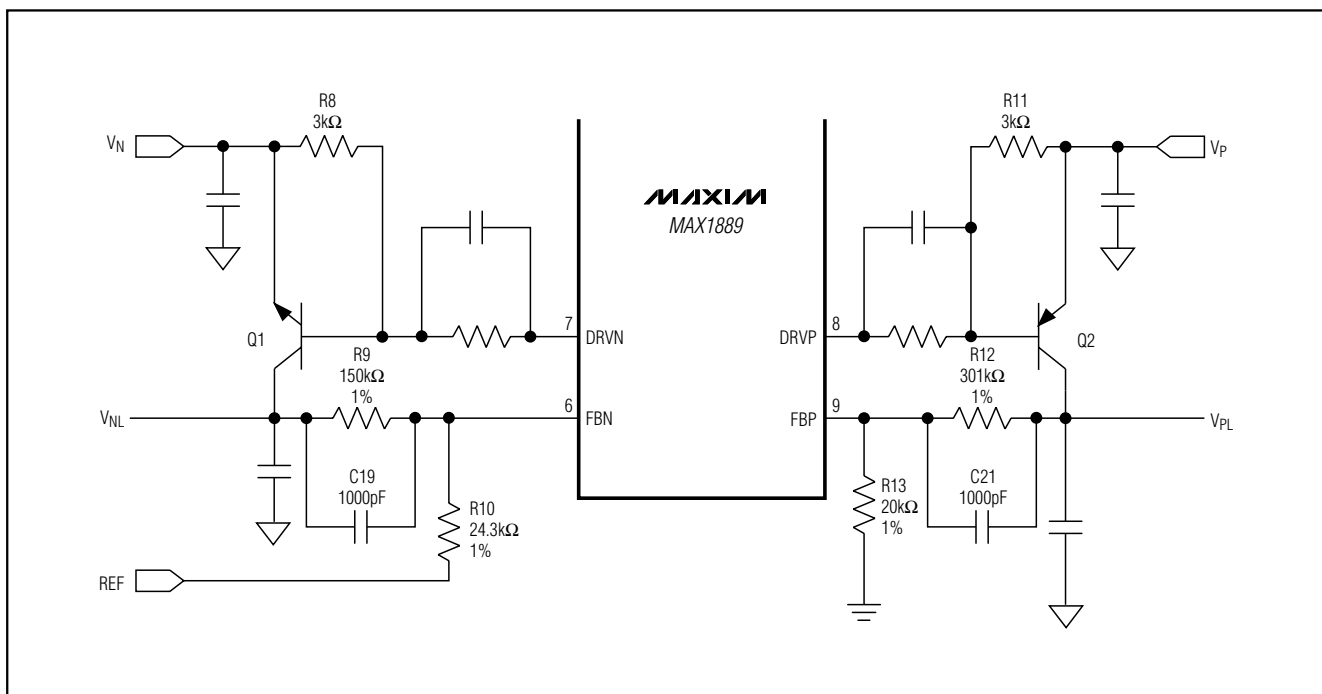

Figure 8. LDO Compensation
- 3) A third pole is set by the linear regulator's feedback resistance and the capacitance (including stray capacitance) between FB_{-} and GND (for the positive LDO) and FBN and GND (for the negative LDO) (Figure 8):
A capacitor connected between the output and the feedback node improves the transient response, reduces the noise coupled into the feedback loop, and maintains the correct regulation point (Figure 8).